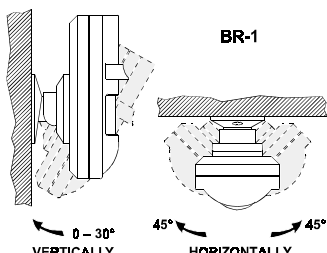

Fig. 4. Hunter with BR-1
**BR-1** - a surface-mounted swivel bracket (see Fig. 4).